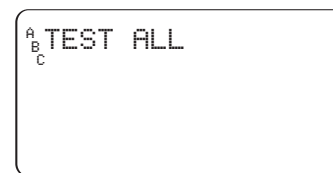

Figure 16: Display – "Test Cycle" selected
2. Press the **MANUAL** button once [See Figure 16]